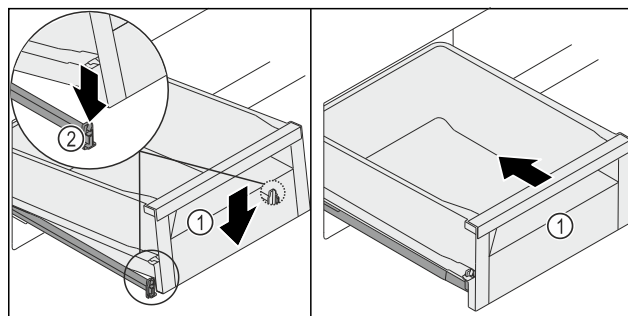

Fig. 139
- Lower the front of the drawer Fig. 139 (1) so that the drawer slides into the clamp Fig. 139 (2) on the left and right.
- The drawer Fig. 139 (1) latches in audibly.
- Push in the drawer Fig. 139 (1).